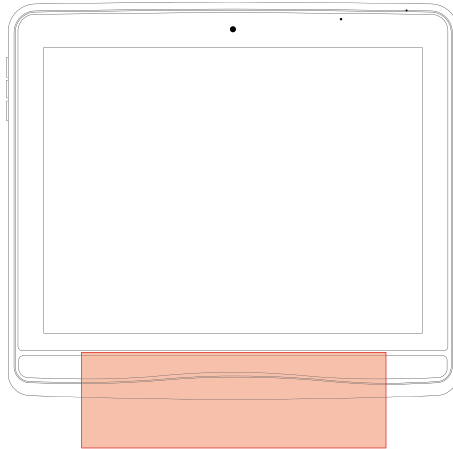

Figure 5.7 Wake-on-Gaze® Area
2. Look at the area in between the two illuminators of the Eye Tracker at the bottom of the I-Series, see *Figure 5.7 Wake-on-Gaze® Area, page 29*.